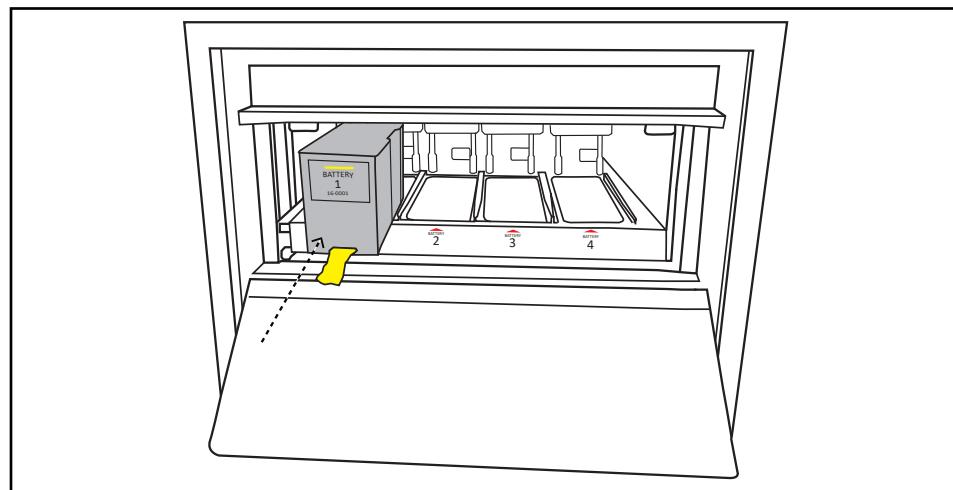

Figure 56: Battery Bays
- a. Starting on the left-hand side with Battery 1, slide the battery in the charging bay labeled Battery 1. Refer to “Figure 56: Battery Bays” on page 53.